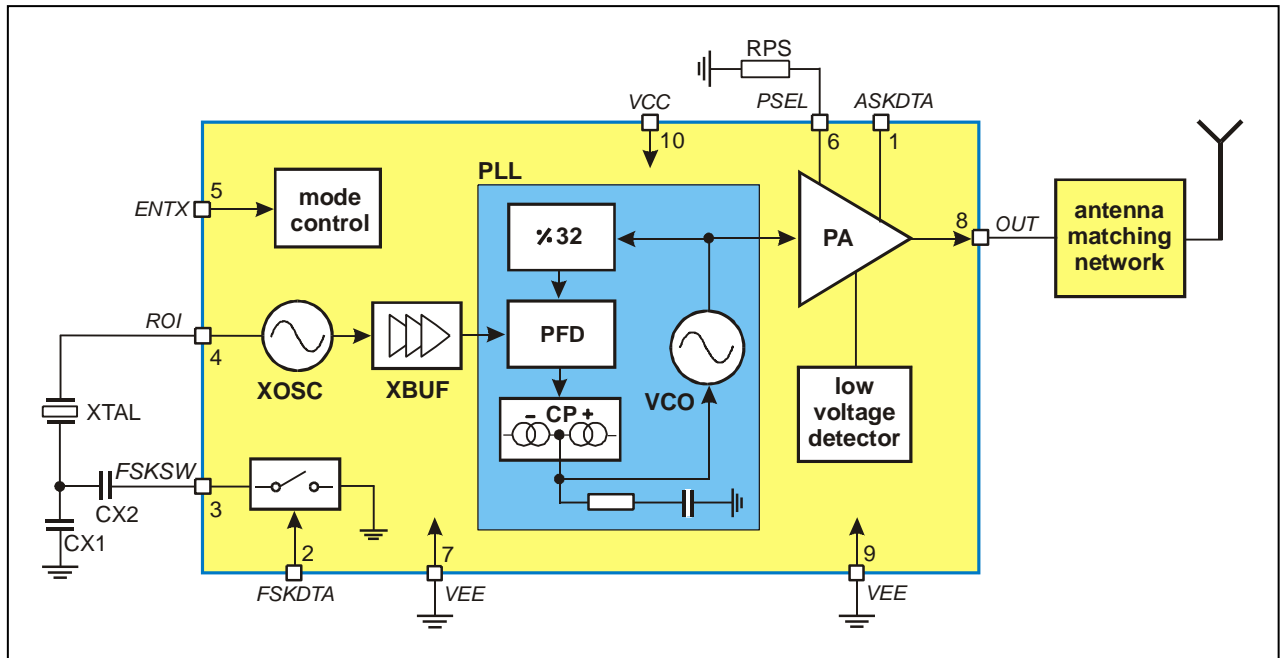

Fig. 1: Block diagram with external components
As depicted in Fig.1, the TH72005 transmitter consists of a fully integrated voltage-controlled oscillator (VCO), a divide-by-32 divider (div32), a phase-frequency detector (PFD) and a charge pump (CP). An internal loop filter determines the dynamic behavior of the PLL and suppresses reference spurious signals. A Colpitts crystal oscillator (XOSC) is used as the reference oscillator of a phase-locked loop (PLL) synthesizer. The VCO's output signal feeds the power amplifier (PA). The RF signal power  $P_{out}$  can be adjusted in four steps from  $P_{out} = -12$  dBm to +11 dBm, either by changing the value of resistor RPS or by varying the voltage  $V_{ps}$  at pin PSEL. The open-collector output (OUT) can be used either to directly drive a loop antenna or to be matched to a 50Ohm load. Bandgap biasing ensures stable operation of the IC at a power supply range of 1.95 V to 5.5 V.